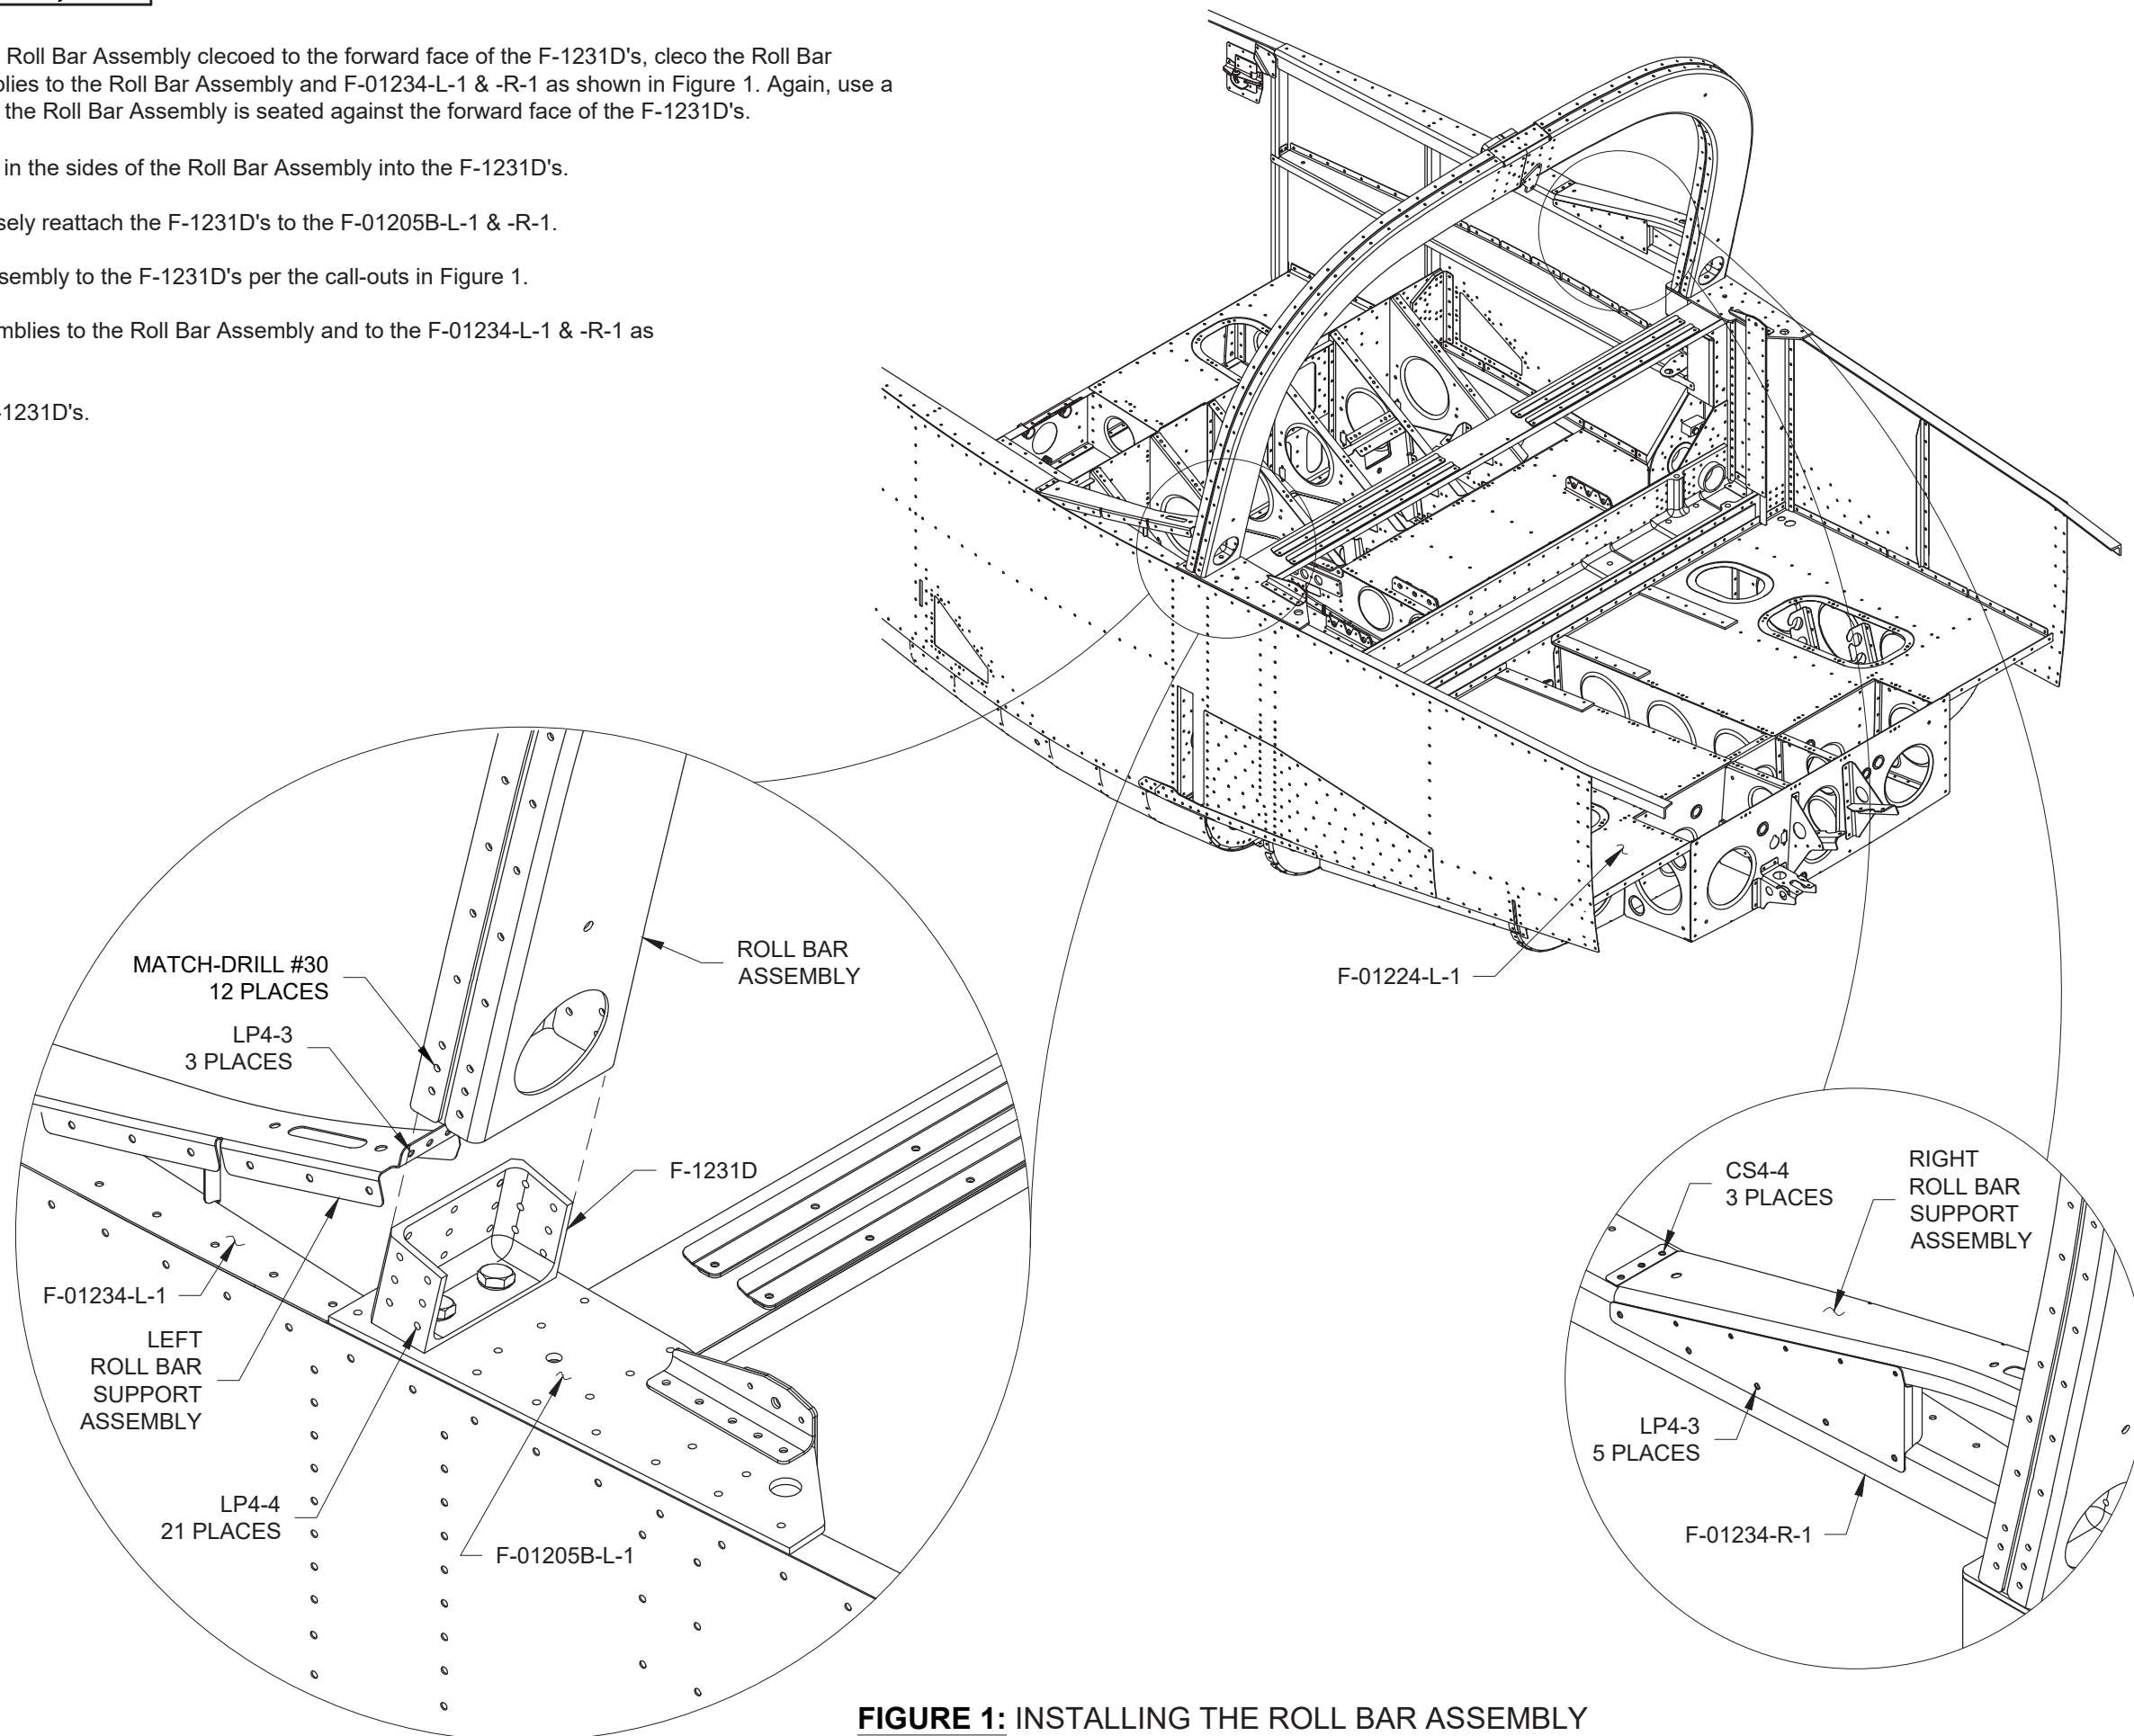

FIGURE 1: INSTALLING THE ROLL BAR ASSEMBLY
Step 5: Rivet the Roll Bar Support Assemblies to the Roll Bar Assembly and to the F-01234-L-1 & -R-1 as shown in Figure 1.
Step 1: Mark a line on the forward face of the F-1284-L & -R as dimensioned in the Detail View of Figure 1.